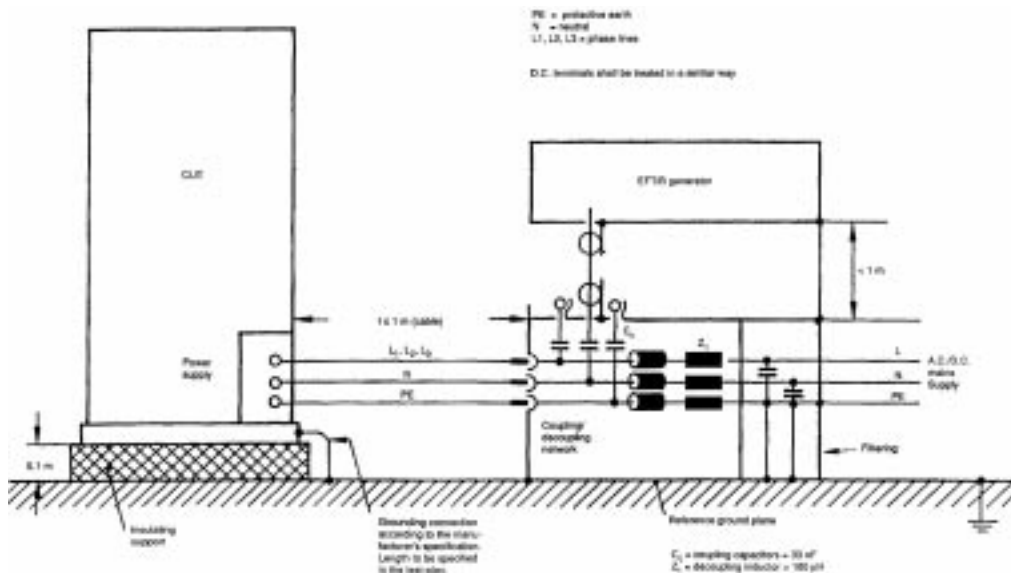
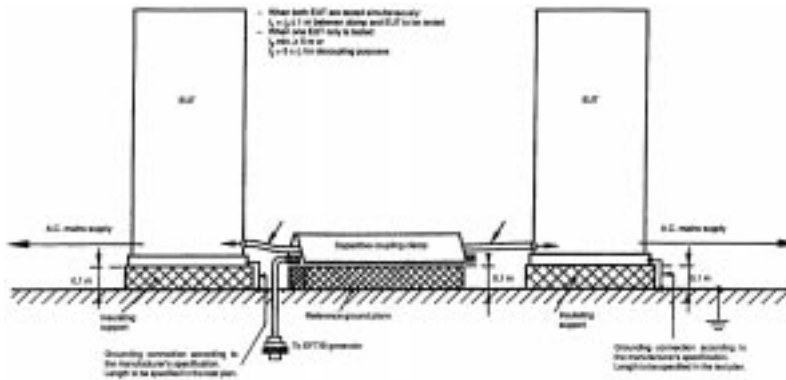

Figure 7. Example of test set-up for direct coupling of the test voltage to a.c./d.c. power supply lines/terminals for laboratory test purposes.
Figure 8. Example of test set-up for application of the test voltage by the capacitive coupling clamp for laboratory test purposes.
For laboratory testing, the test set-up for type testing can be shown in Figure 7 and Figure 8.
- Power supply lines (See Figure 7): If the line current is higher than 100 A, the "field test" shall be used.
- Earth connections of the cabinets: The test point on the cabinet shall be the terminal for the protective earth conductor. (See Figure 7)
- Input/Output circuits and communication lines (See Figure 8).